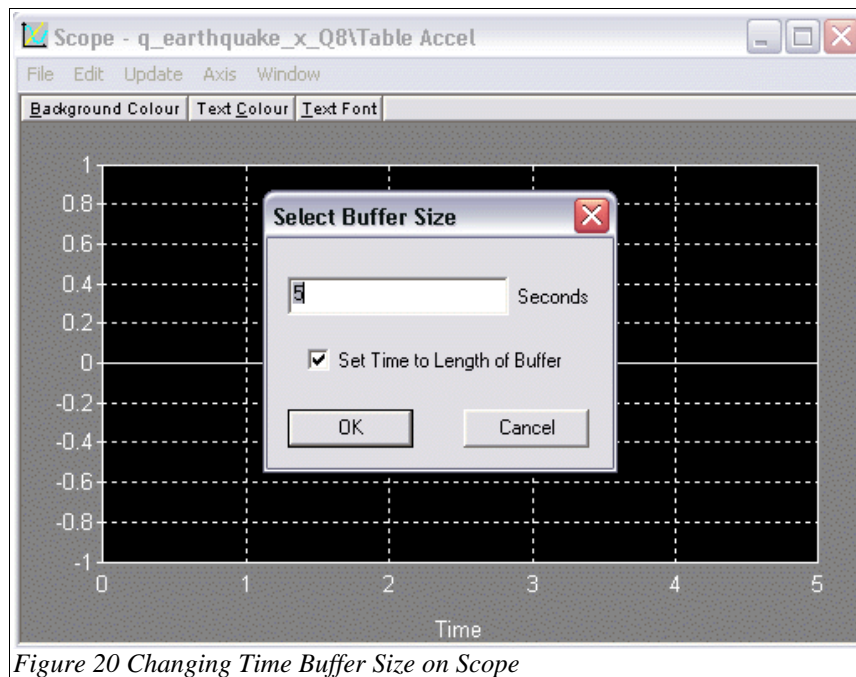

Figure 20 Changing Time Buffer Size on Scope
- Step 4. The time scale of a plot can be adjusted by selecting *Update* on the scope and choosing *Time Buffer*, as shown in Figure 20.